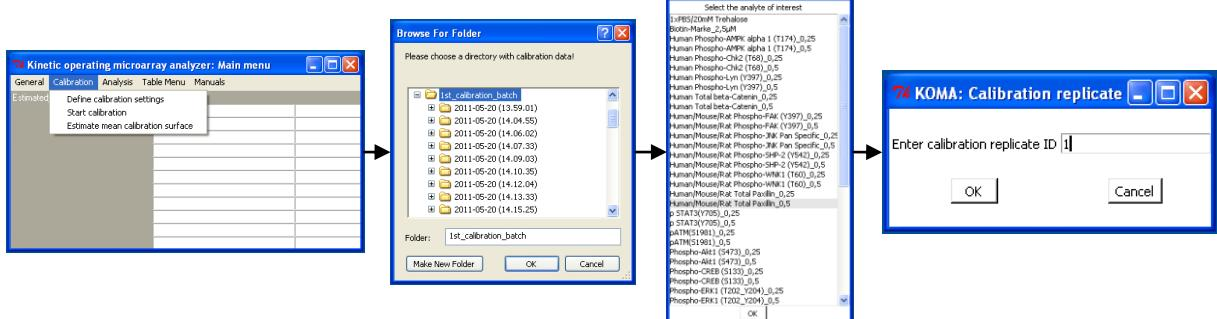

Figure 6. Selection of calibration data and analytes.
2. Go to “Calibration” → “Start calibration”. KOMA will ask to browse for folder containing raw calibration data. Afterwards, in the opening windows select the analyte from the previously defined layout list, for which the calibration has to be performed, and enter an ID for the calibration replicate (**Fig. 6**).